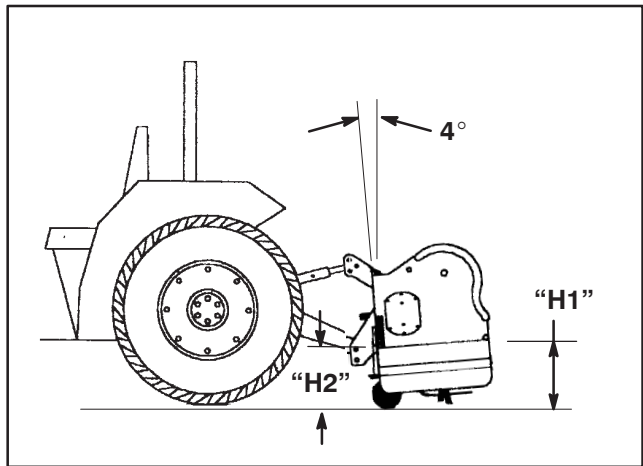

Figure 23
- C. Measure and record the distance from the ground to the lower rear corner of the frame ("H1") and front corner of the frame ("H2") (Fig. 23).